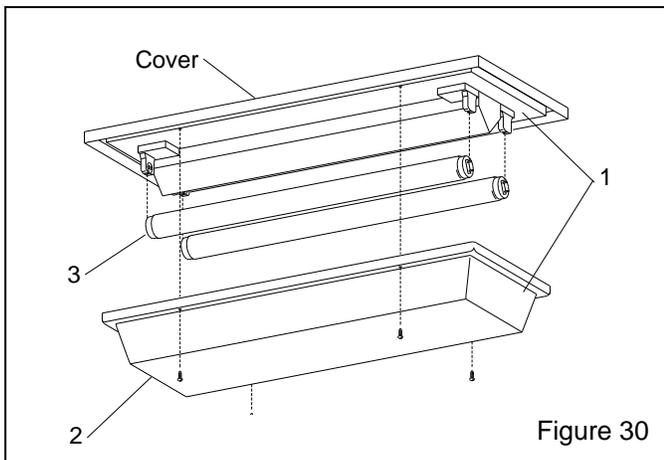

Figure 30
9.6 Light Shield Assembly, Figure 30